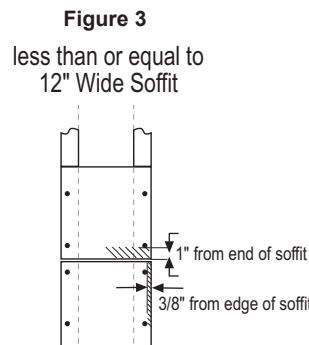
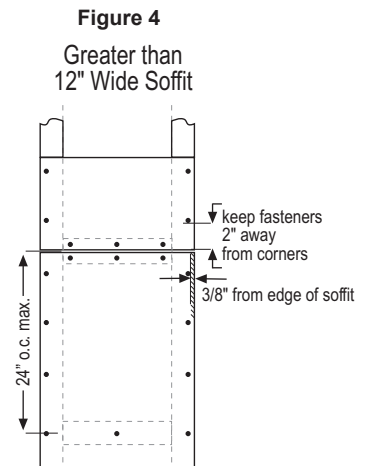

Figure 3
Figure 4
- Hardiesoffit™ panels may be installed over either steel or wood framing complying with the local building code. Install soffits to nominal 2 x 4 framing members spaced a maximum of 24 inches on center (fig.4), with the long dimension perpendicular to the rafter or joist framing.
- All edges must be supported by framing. (figs. 3 & 4)
- Position fasteners 3/8" from panel edges and no closer than 2" away from corners when using soffit greater than 12" wide (fig. 4) and no closer than 1" away from corners when using soffit that is less than or equal to 12" wide (fig. 3).